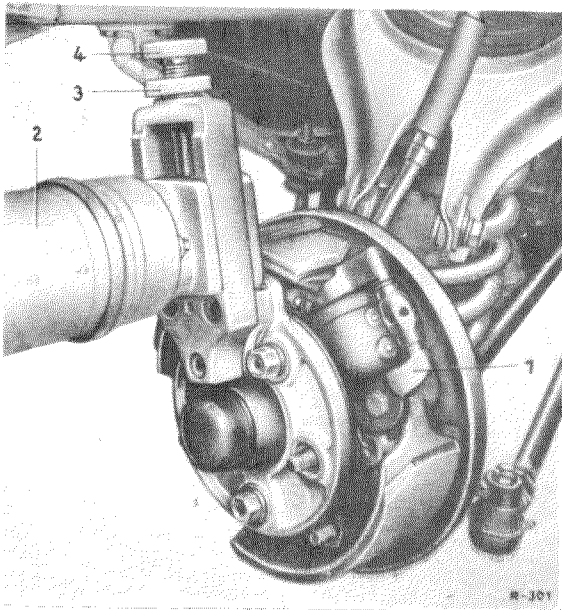

Fig. 42 — 11/2
The riveting sequence is shown in Fig. 42 — 11/1. Start in the middle of the lining at 1, then install rivets 2, 3 etc. This procedure is necessary in order to make sure that the brake lining snugly fits the whole surface of the brake shoe.
2. On the front axle install two Clamps (1) 180 589 01 63 on the two brake shoes by means of the hexagon screw of the anchor pin (Fig. 42 — 11/2).